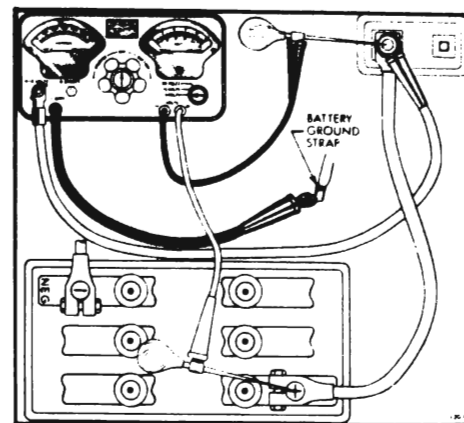

Figure 120-8 - Battery Cable Test Connections
2. Connect ammeter positive (+) lead to post on starting motor. Connect ammeter negative (-) lead to one side of rheostat and connect other side of rheostat to ground on engine, preferably at point where battery ground strap is attached. In the instrument shown in Figure 120-8 the ammeter and rheostat are connected in series inside the case.
3. Connect voltmeter negative (-) lead to post on starting motor. Use prod with voltmeter lead, if necessary, to insure direct contact with the terminal stud. *Do not connect to the ammeter lead clip.* Attach a prod to voltmeter position (+) lead and apply the prod to center of battery positive (+) post (Figure 120-8). Make sure that clips of voltmeter leads have clean metal contact with prods.